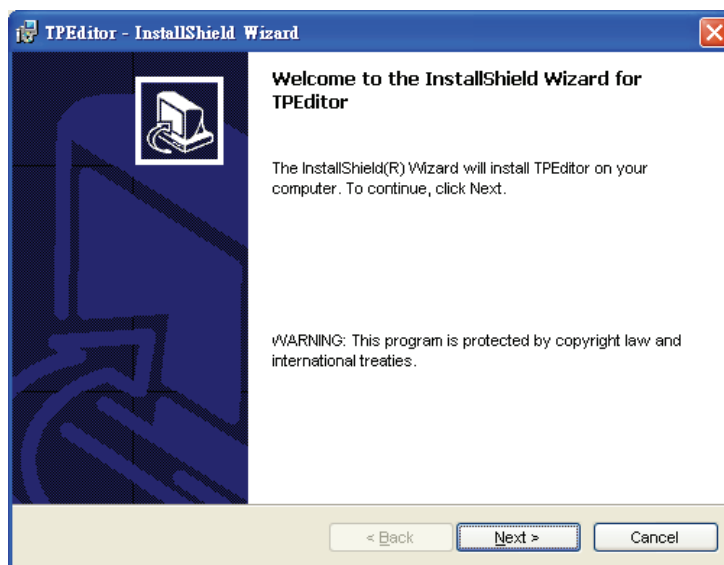

Figure 1-4
- Then, the users will see the image in Figure 1-4. Click **Next>** for the next setup.